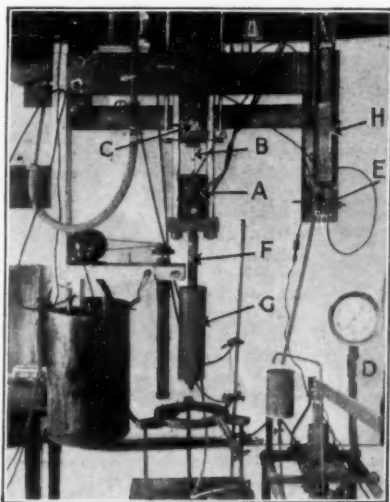

FIGURE 7
A VIEW of one of the finally evolved pieces of apparatus which has been in constant use for many years is shown in Figure 7. Pressure is produced in the upper cylinder (A) by a small piston (B) (1/2 inch diameter) driven by the larger piston (C) (2.5 inches in diameter) of a hydraulic press, which in turn is operated by the hand pump (D). By means of the valves at (E), the pump (D) may be connected at will to the piston (C), or to the small hydraulic intensifier (H). The intensifier is used to produce in the high pressure parts of the apparatus an initial pressure of 30,000 lb/in2. This initial pressure compresses to negligible volume any air accidentally present in the apparatus, and also takes up a large part of the compressibility of the liquid, thus making it possible to reach 200,000 lb/in2 with a single stroke of the high pressure piston,